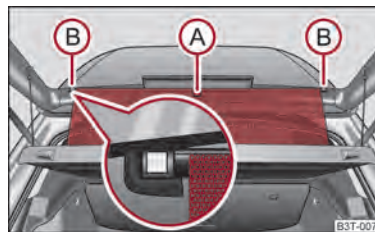

Fig. 49 Unroll the sun screen
- Pull the sun screen at the handle A → fig. 49 and hang it in the magnetic brackets B.